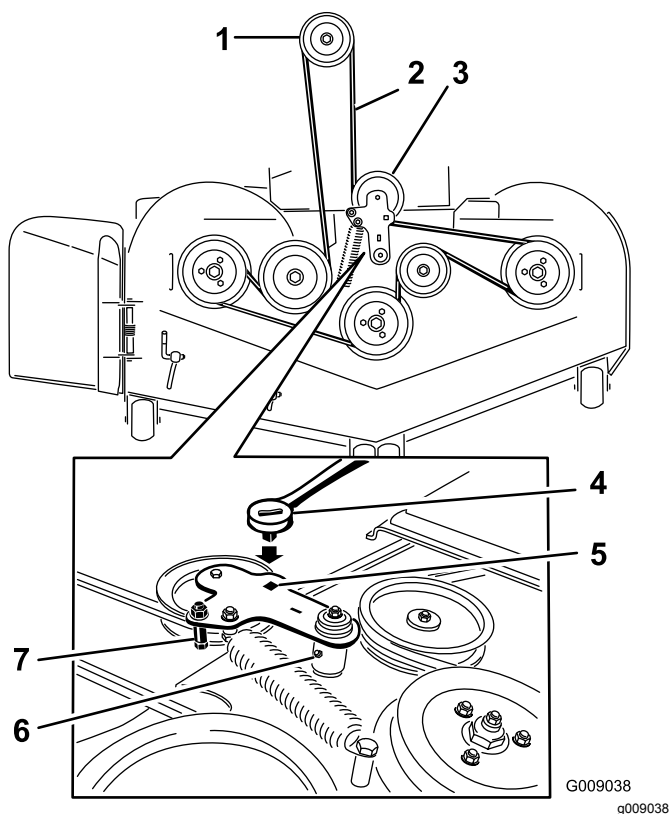

Figure 98
5. Lift up the floor pan and insert a ratchet into the square hole in the deck idler (Figure 98).
6. Rotate the deck idler clockwise and remove the mower belt (Figure 98).